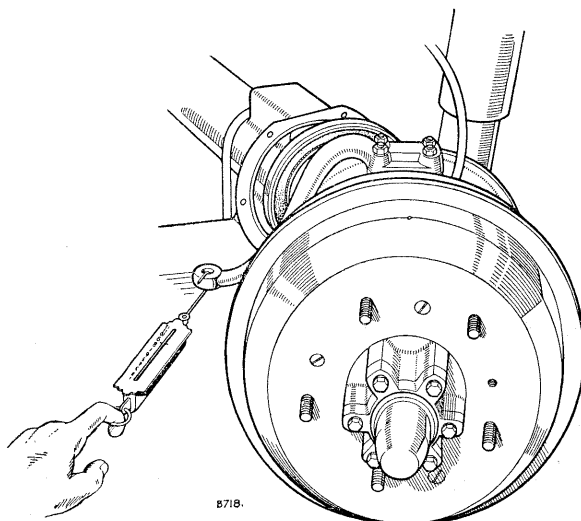

Fig. F-21—Checking swivel pin housing resistance to rotation
16. Using a suitable spring balance as shown at Fig. F-21, add or subtract shims at the top only until a figure of 14-16 lb. (6,25-7,25 kg) is obtained.